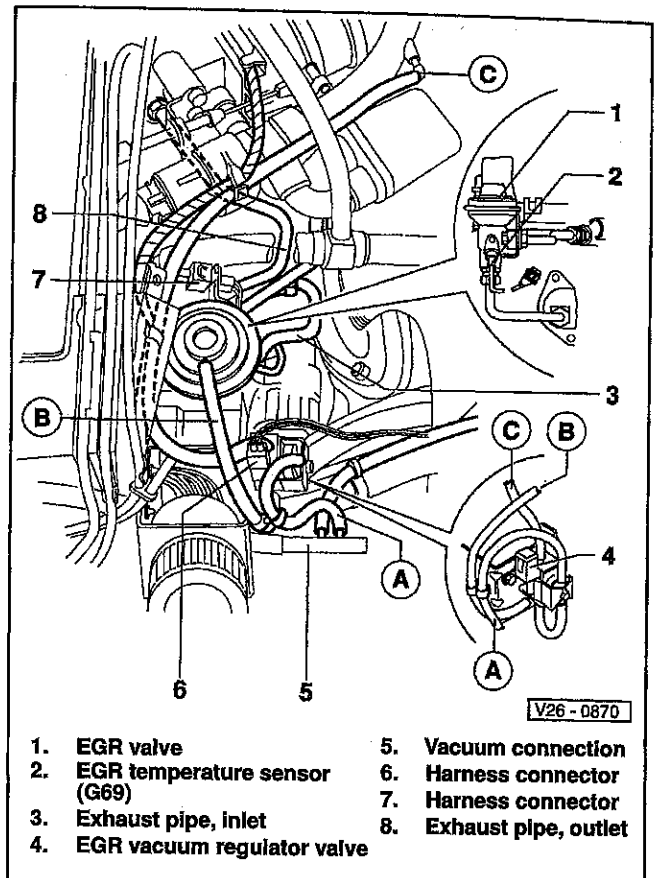

Fig. 10. EGR system layout on AAA engine (2.8 liter).
1. Check that the EGR system vacuum hoses are routed correctly and free from obstructions and leaks. See Fig. 10.